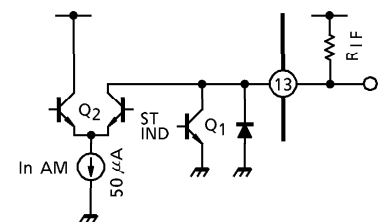

Fig.5 Internal circuit of pin⑬
- The terminal of pin⑬ is built in stereo indicator function and modulated AM IF signal output. In AM mode,  $R_{IF}$  ( $3k\Omega$  or less) should be connected between  $V_{CC}$  and pin⑬, or pin⑬ should be connected to  $V_{CC}$  directly. (Fig.5) In case that  $R_{IF} > 3k\Omega$  or pin⑬ is opened, this IC doesn't operate normally in AM mode. Because transistor  $Q_2$  is saturated.